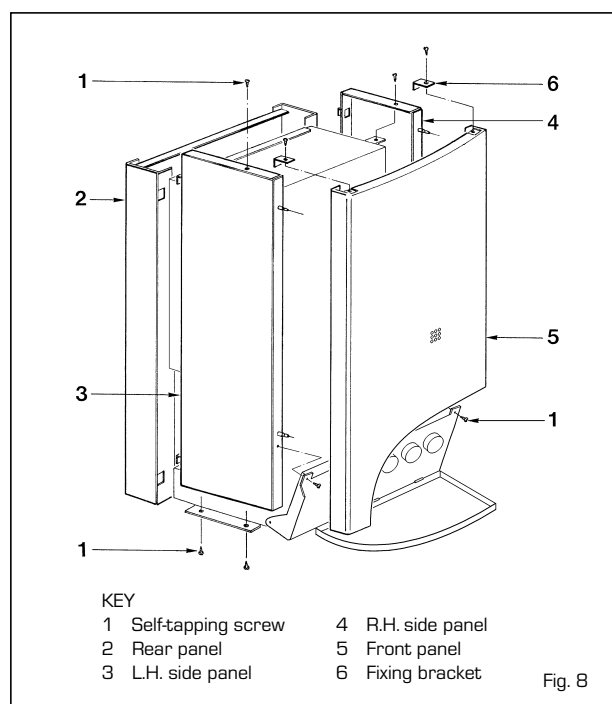

Fig. 8
- Remove the outer casing front panel fixing screws (6 fig. 8) and remove the front panel (5 fig. 8) by pulling forwards, starting at the top corners.